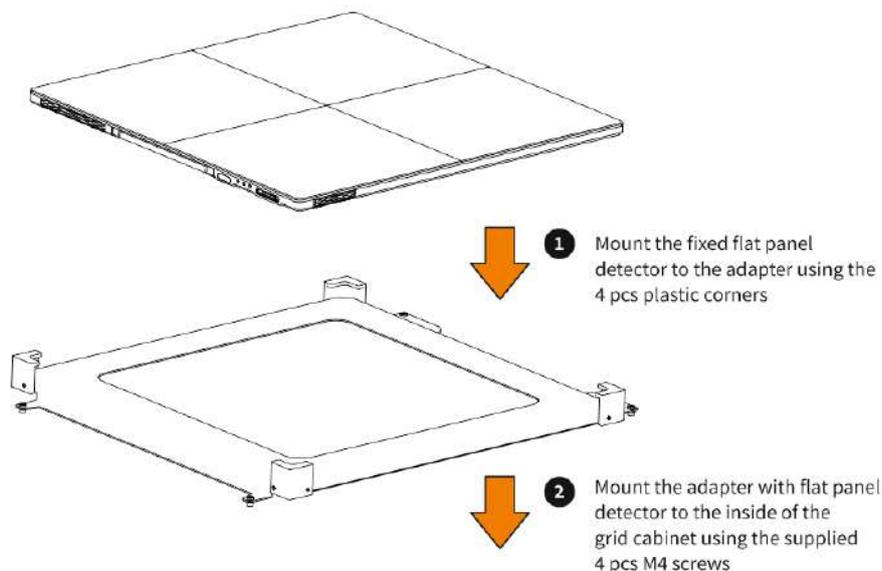

Figure 39 – Fixed DR flat panel mounting
- b. Mount the fixed DR flat panel. Refer to Figure 39.